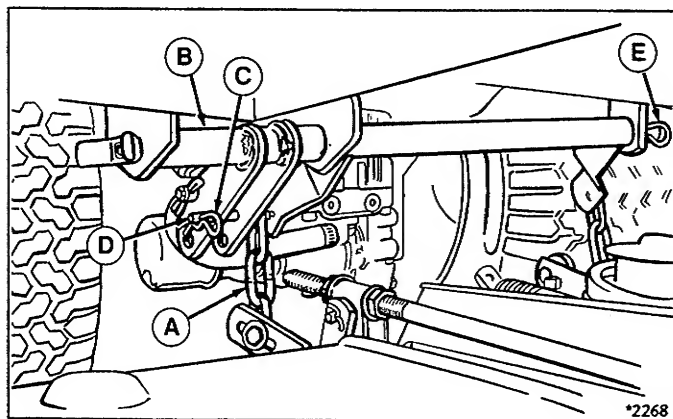

Figure 21. 50" Mower Shown
5. On 44" mower, disconnect mower lift chain from tractor lift arm by removing safety clip and washer from weld stud. Reinstall hardware on tractor lift arm for storage. On 50" mower, remove mower lift chain (A, figure 21) from tractor lift (B) by removing safety clip (C) and clevis pin (D) on right-hand side. On left-hand side, remove lift chain from